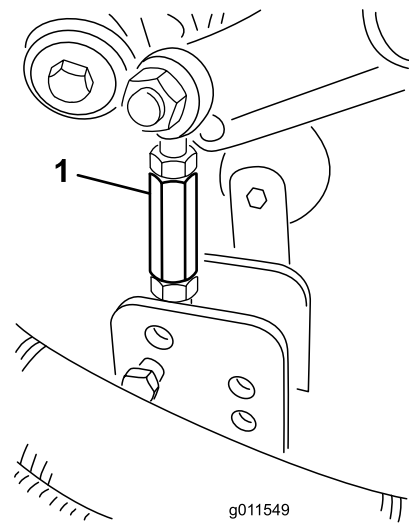
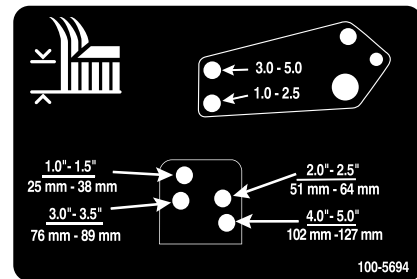

Figure 25
Figure 26
8. Remove the hairpin cotters and clevis pins securing the damper links to the cutting unit brackets (Figure 25). Align the damper link holes with the selected height-of-cut bracket holes in the cutting unit frame (Figure 26), insert the clevis pins, and install the hairpin cotters.